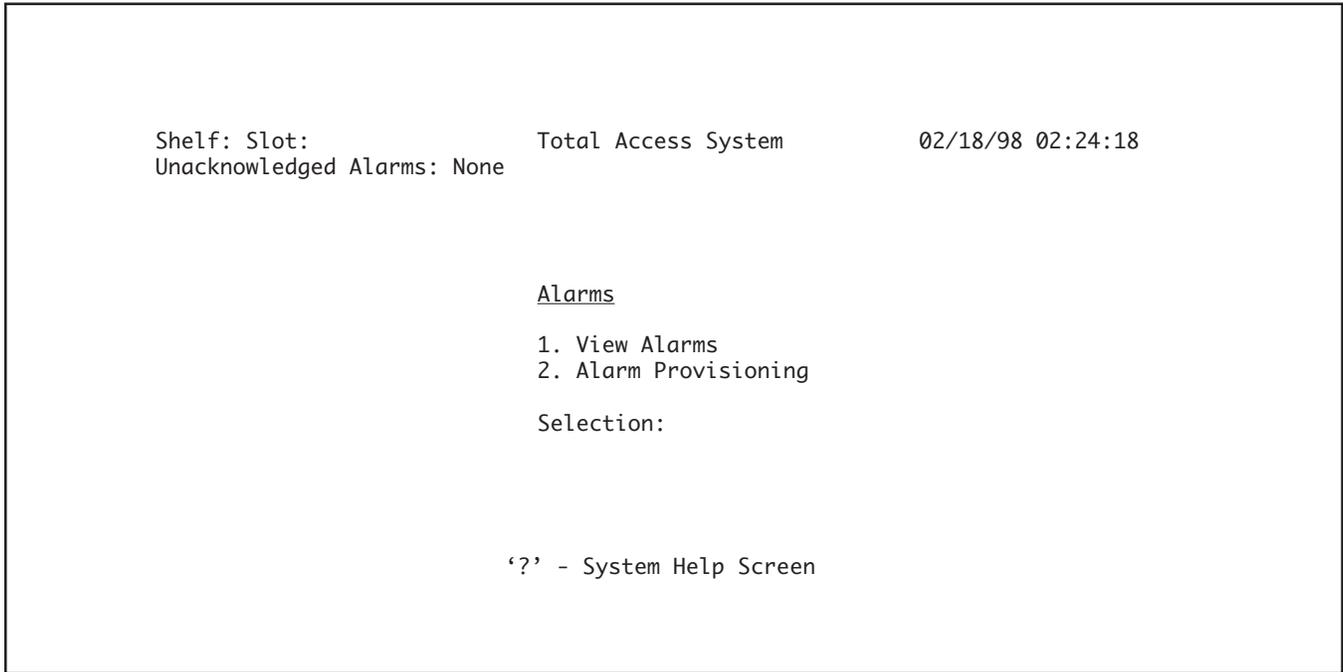

Figure 19. Alarms Screen
From the QFO-C Main Menu Screen, type “4” and press Enter to select Alarms. The Alarms Screen (Figure 19) displays.
1. From the QFO-C Main Menu screen, type “4” and press Enter to select Alarms. The Alarms Screen (Figure 19) will appear.